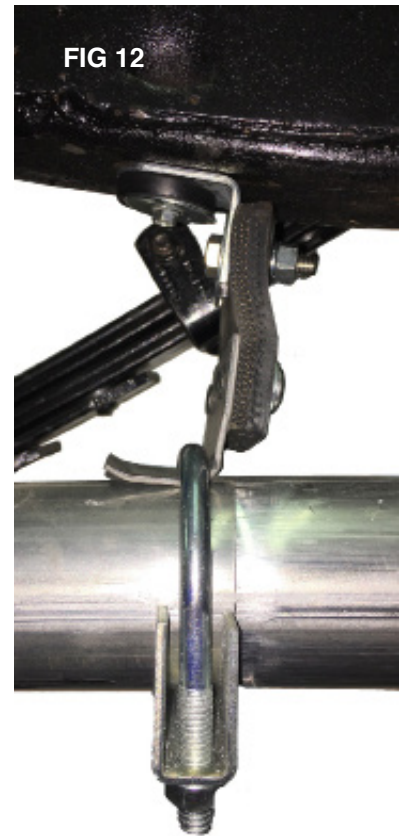

FIG 12
11. Next you will want to secure the tail pipe. Go to the section of the tail pipe that is next to the gas tank directly below the frame. Here you will secure the tail pipe using J, F, G and a 1/4" self drilling screw. **Please SEE FIG 12 on next page.** Keep in mind Short L Bracket G mounts in the same fashion as H only this time the long portion of the L faces down towards the ground. You most likely will want to trim F and G. **SEE FIG 10** for how we trimmed ours. We trimmed several inches off ours but every Bronco is a little different so measure twice cut once. Long Rubber Hangar F mounts to G using the supplied 5/16" x 1 1/4" bolt, 2 - 5/16" fender washers, a 5/16" lock washer and a 5/16" coarse thread nut. Then F hooks under J and J clamps around Tail Pipe E and is tightened down to secure F. **Remember after you have all this assembled, snug it all together firmly but don't tighten it just yet.** Remove the jack stands and stand back, take a last look at